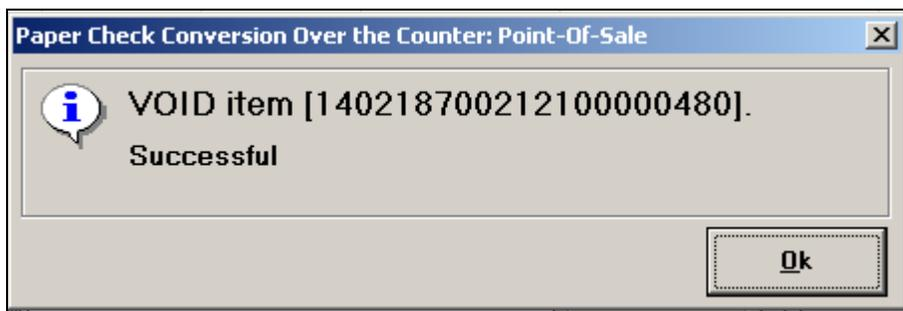

Figure 6.52
5. A confirmation window appears stating the 'Void' process was successful. (Figure 6.52)